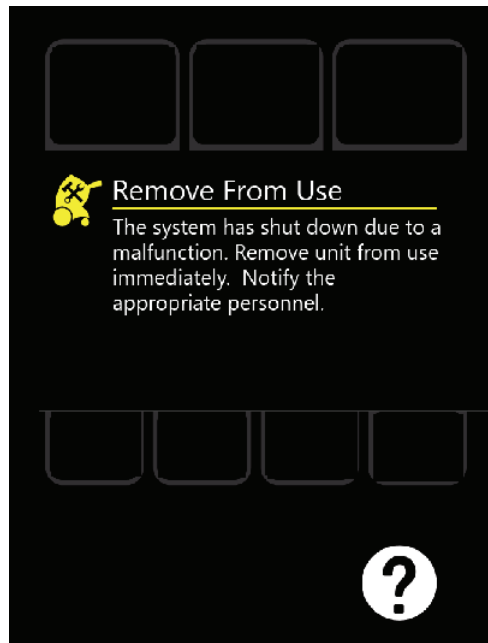
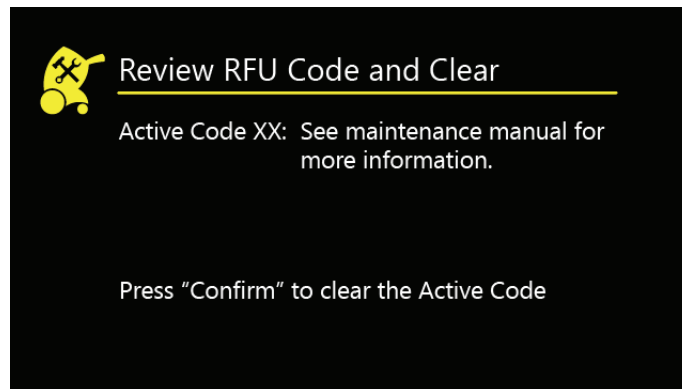

Figure 56 – Remove from use
Figure 57 – Review RFU Code and Clear
1. In the Remove from Use screen (Figure 56), tap the ? button to see the Review RFU Code and Clear screen (Figure 57).